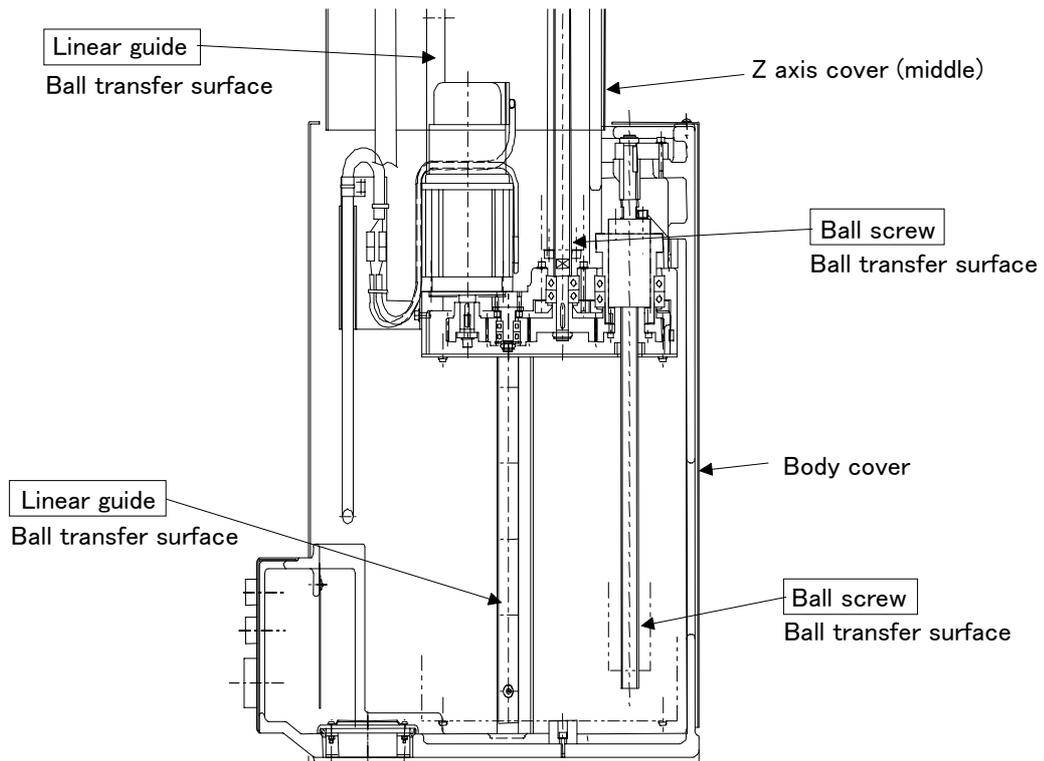

Fig.5-17 : J3 axis grease replenishment(RH-1000GHDC-SA/GJDC-SA)
- 1) Rise to the state shown in Fig. 5-17, and remove the body cover and Z axis cover (middle).